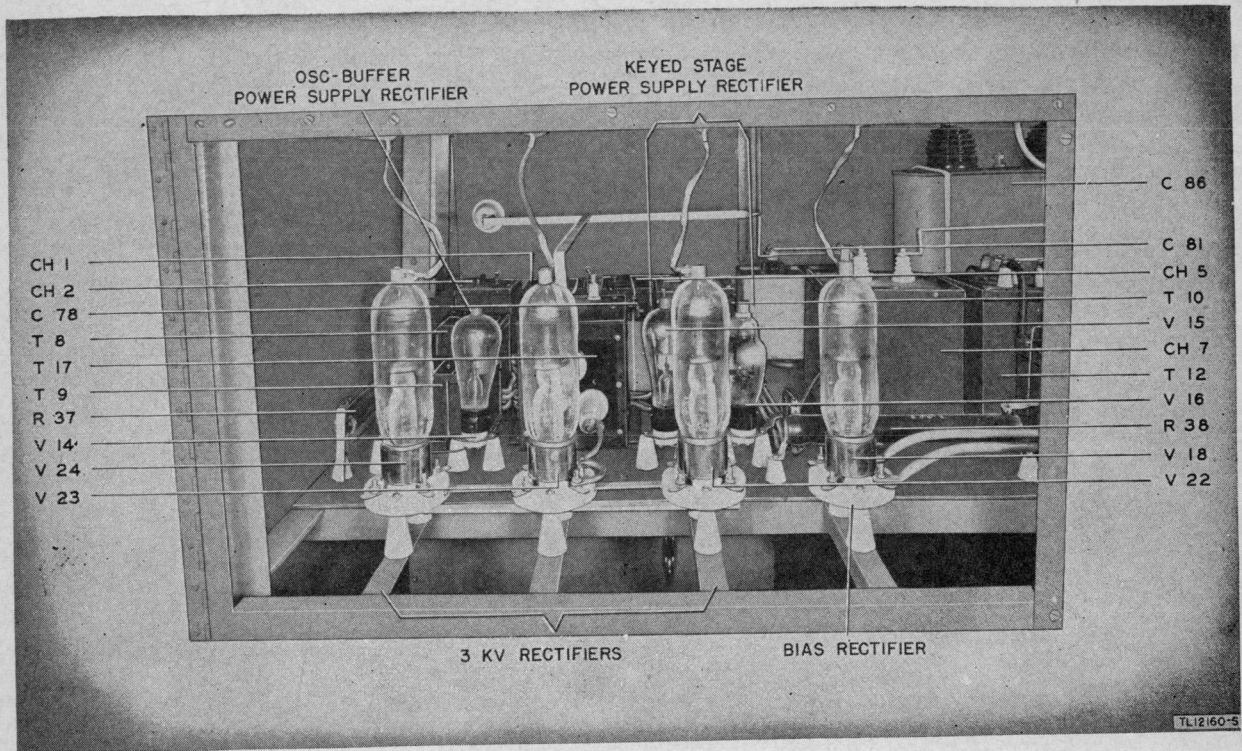
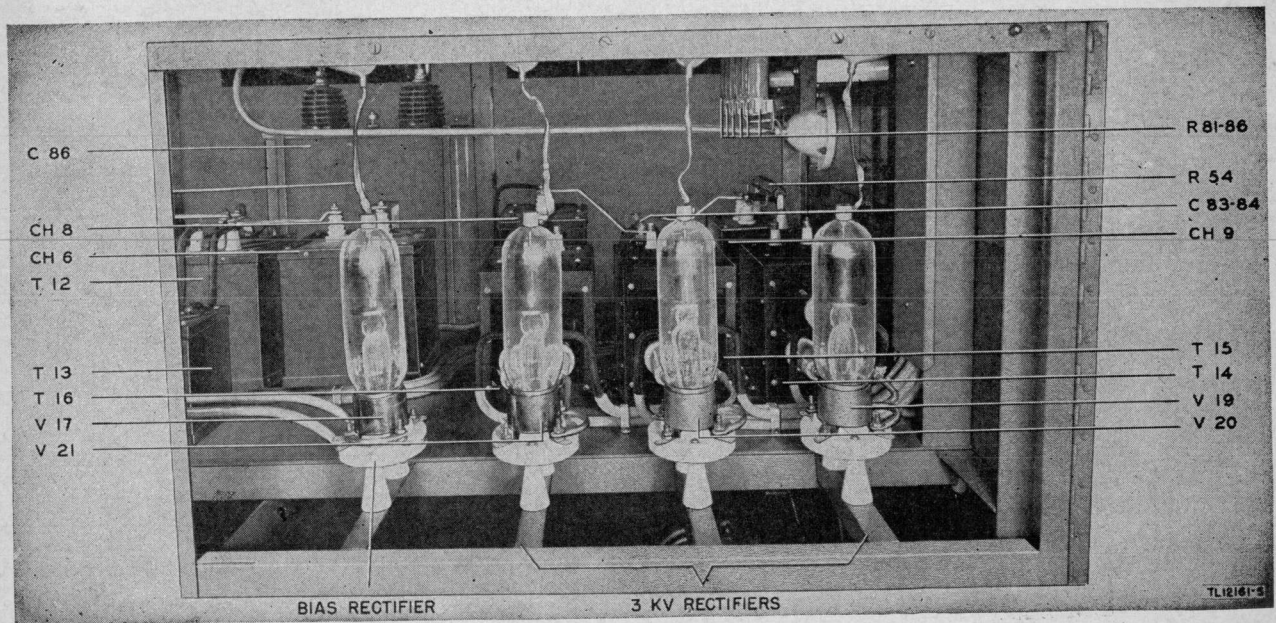

Figure 8. Low voltage rectifier, left side.
Figure 9. Low voltage rectifier, right side.
g. **LOW-VOLTAGE POWER SUPPLIES.** The oscillator buffer and keyed stage power supplies are located in the left-hand upper section of the rectifier-exciter unit. (See fig. 8.) The 3 kv power supply for the three frequency multipliers and the first amplifier stages occupy part of the left-hand and right-hand sections. (See fig. 9.) The bias power supply is located in the central top portions of the rectifier-exciter unit, and supplies grid bias for the frequency multipliers, first amplifier, and power-amplifier.